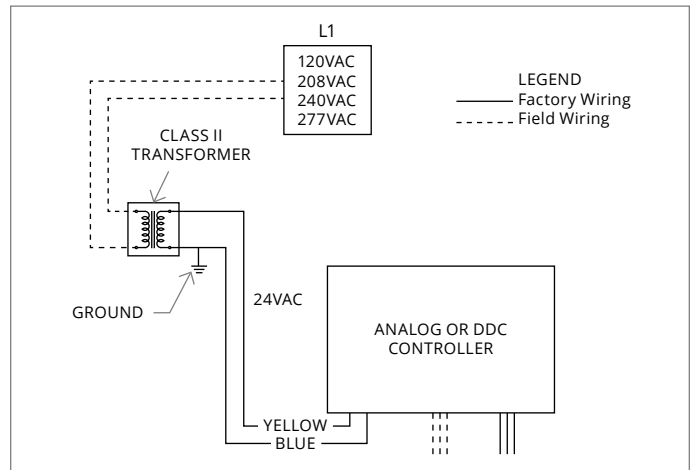

Figure 4: Wiring of Optional Factory Mounted Transformer
- Refer to specific unit dimensional submittals and control application diagrams for control specifications. All field wiring must comply with National Electrical Code (NEC) and local requirements. Refer to the wiring diagram on the unit for specific wiring connections. A field-supplied transformer is required if the unit was not equipped with a factory installed transformer. See Figure 4 for illustration.